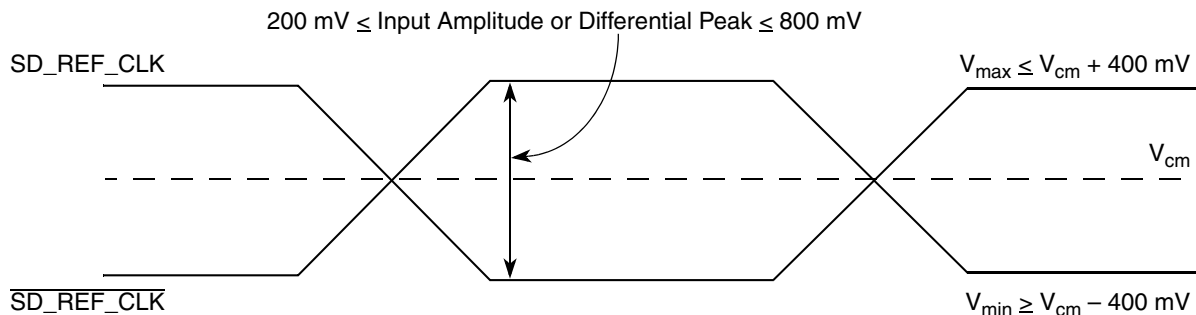

Figure 41. Differential Reference Clock Input DC Requirements (External AC-Coupled)
- For external AC-coupled connection, there is no common mode voltage requirement for the clock driver. Since the external AC-coupling capacitor blocks the DC level, the clock driver and the SerDes reference clock receiver operate in different command mode voltages. The SerDes reference clock receiver in this connection scheme has its common mode voltage set to SGND_SRDS_n. Each signal wire of the differential inputs is allowed to swing below and above the command mode voltage (SGND_SRDS_n). Figure 41 shows the SerDes reference clock input requirement for AC-coupled connection scheme.